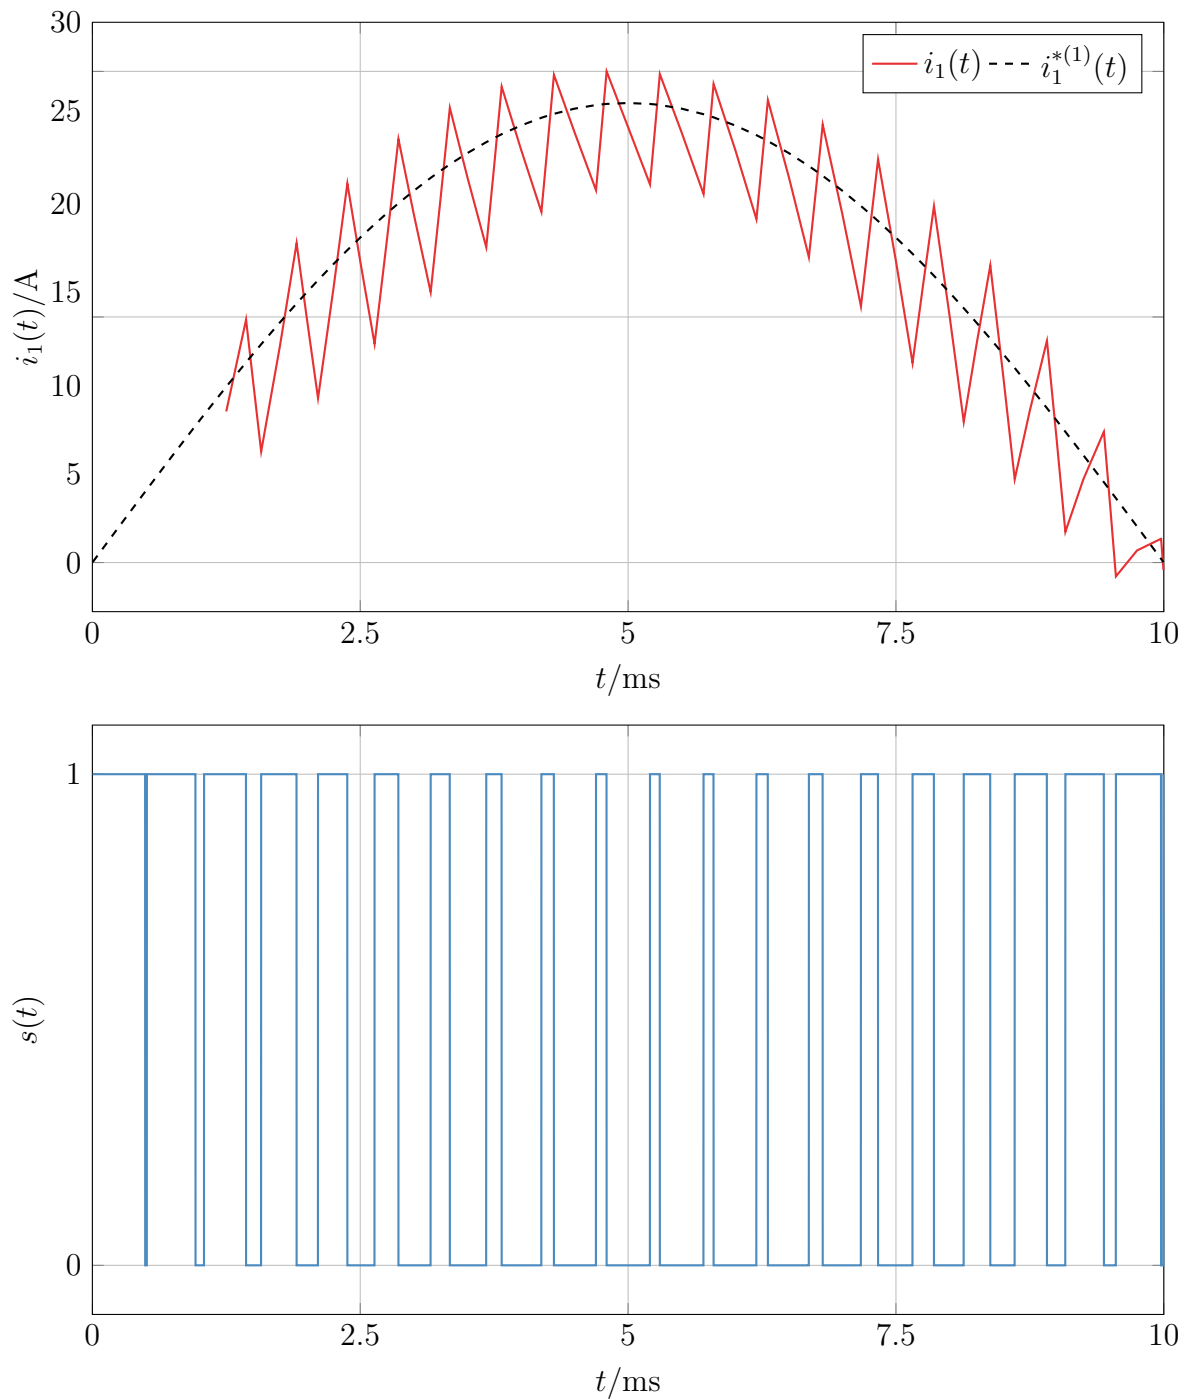
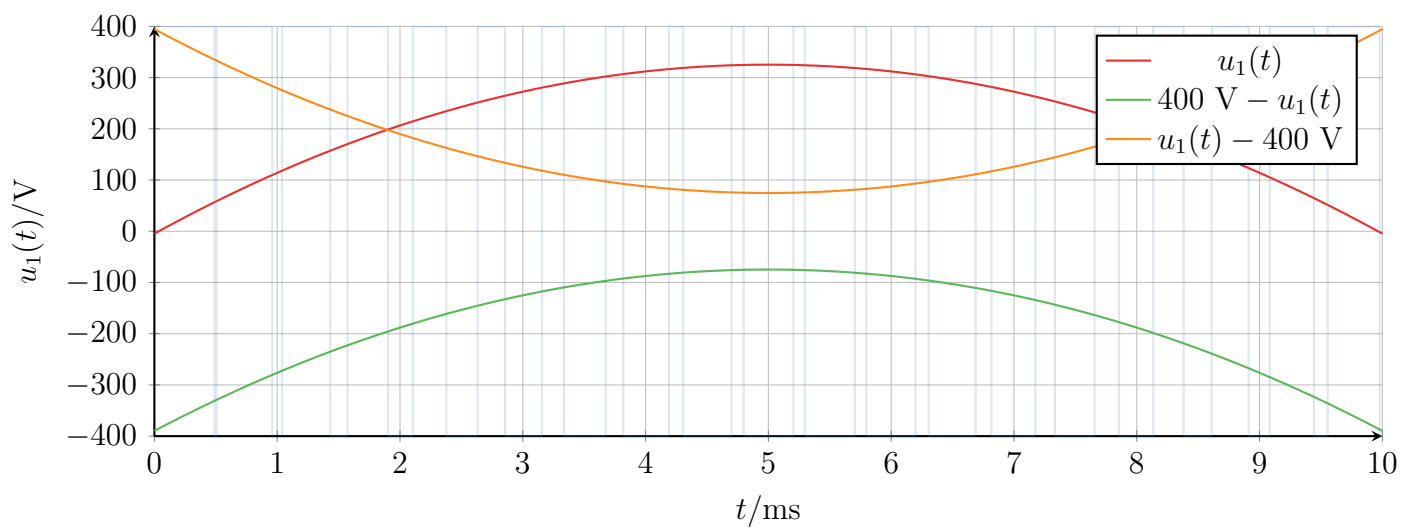

Figure 5.2.2: Incomplete representation of the mains current $i_1(t)$ and control signal $s(t)$ for power transistor T .
Figure 5.2.3: Voltage curve $u_1(t)$ with signal for transistor T .
5.2.4 Complete the current curve for a switching frequency $f_{s2} = 2$ kHz and an inductance $L = 5$ mH in Fig. 5.2.2. Note: At the time $t = 0$ is $i' = 0$. The switch-on and switch-off times are determined by the control signal of the transistor T and are summarized for the first 4 switching times in Tab. 5.2.2.
5.2.5 Approximately sketch the envelope of the current ripple in Fig. 5.2.2. Sketch the voltage across the inductor in Fig. 5.2.3 and enter the average value of the voltage as an approximation. How would the switch-on/switch-off ratio of the transistor have to be changed before and after the current peak in order to bring the average actual current value closer to the current setpoint?